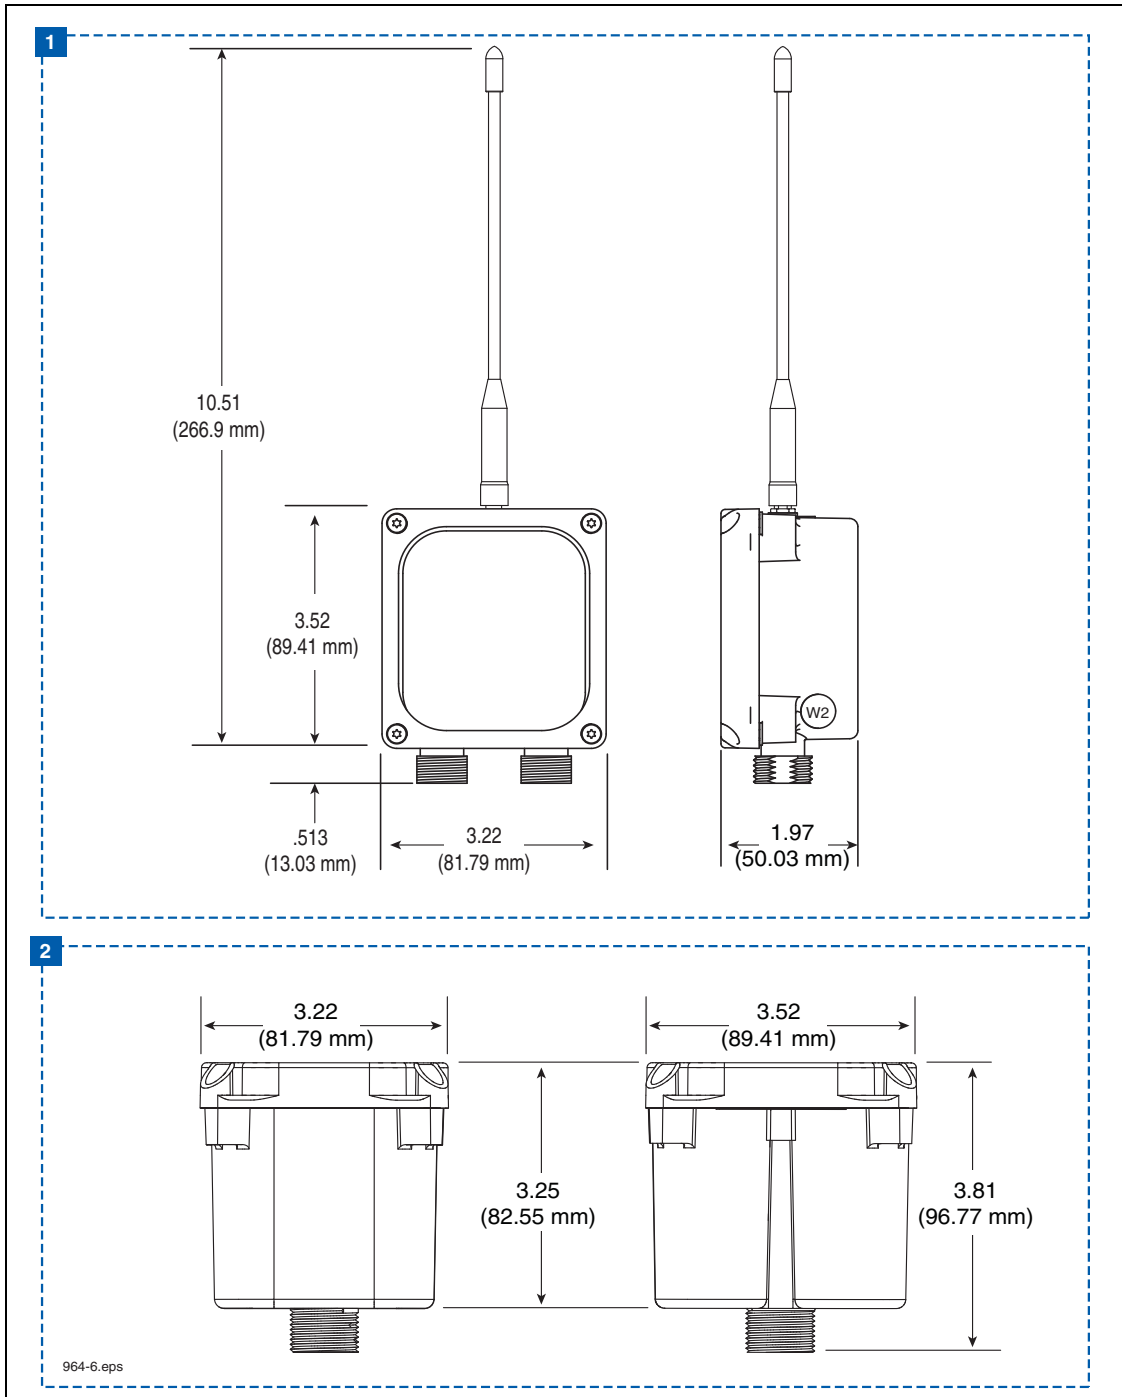

Figure 3. Wireless Component Dimensions
**LEGEND FOR NUMBERED BOXES IN Figure 3**